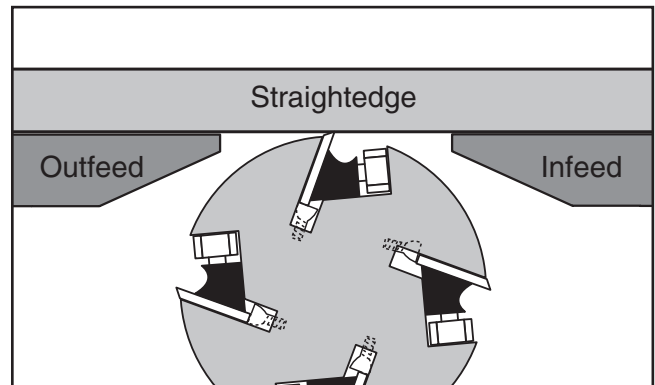

Figure 56. Infeed table adjusted even with outfeed table.
5. Adjust the infeed table until it is level with the outfeed table, as illustrated in **Figure 56**.